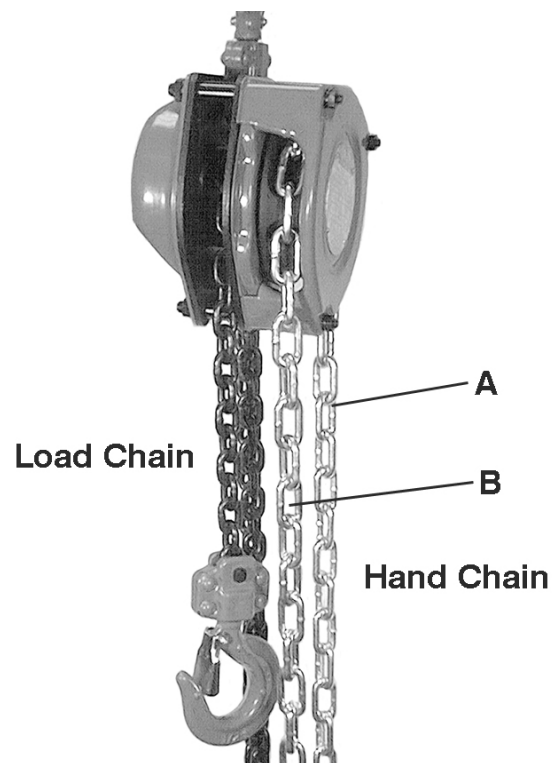

Figure 5
To raise the load, pull the right side of the hand chain (A, Figure 5) clockwise.
To lower the load, pull the left side of the hand chain (B, Figure 5) counterclockwise.
1. Remove the *split pin* (A) and the *pin stopper* (B) on the *chain anchor* (C), allowing the end of the chain to fall free.
2. Pull the *hand chain* (Fig. 5) until the load chain is completely removed from the gear assembly.